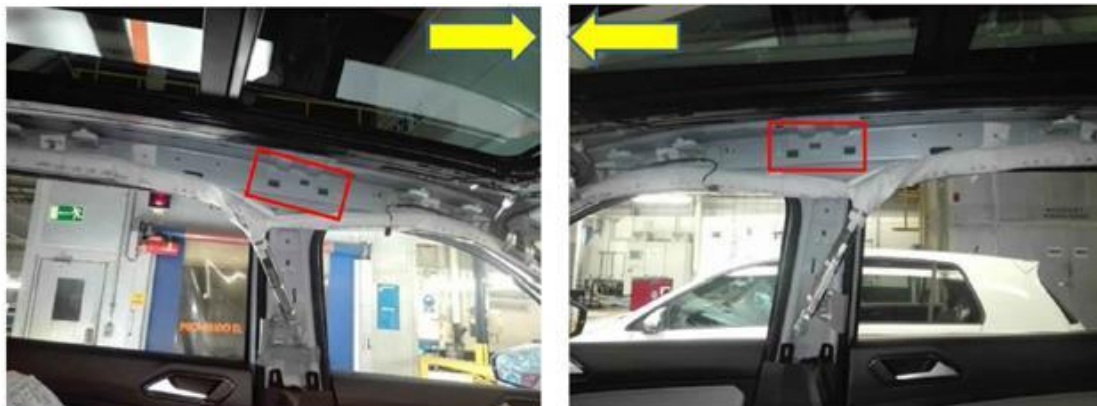

Figure 1 (NOTE: The direction of the YELLOW arrows indicates the front of the vehicle.)
- Partially remove the Head Curtain Airbag (only disconnect according to Repair Manual and remove the igniter, see Figure 1). See Repair Manual group 69 Passenger Protection in Elsa.